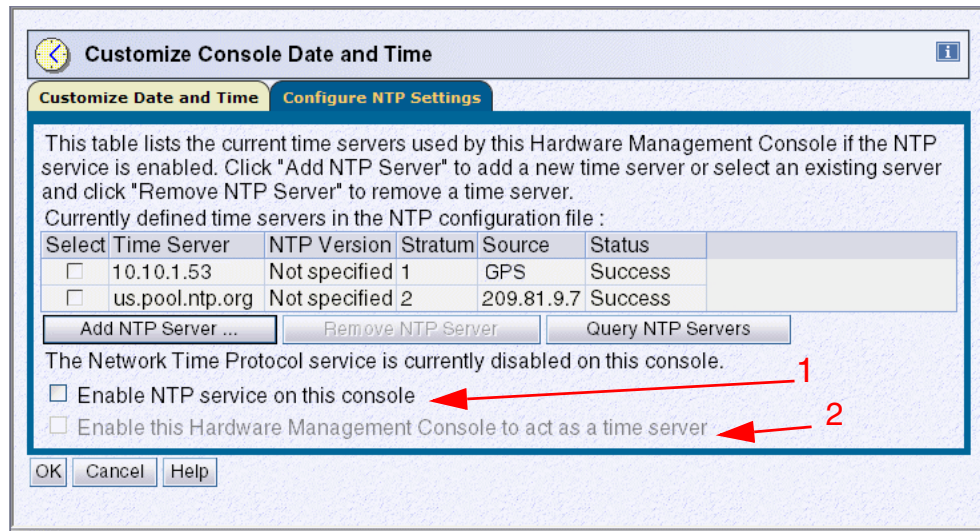

Figure 1-83 HMC NTP server configuration example - HMC version 2.11.1 and before
8. A final HMC NTP server setup is shown in Figure 1-83 on page 49.
If you want to configure the HMC as NTP server, you need first to enable the NTP client service (number 1 in Figure 1-83). This allows HMC to synchronize its time to one of the defined NTP servers. Furthermore, to enable the NTP server service on the HMC, you need to check the "Enable this Hardware Management Console to act as a time server" tick box (number 2 in Figure 1-83).